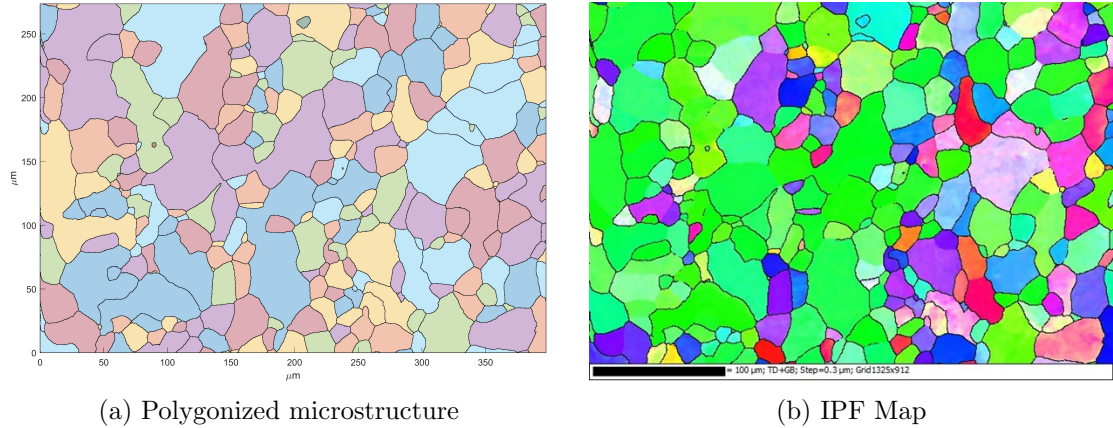

Figure 1.1: Typical example of converted microstructure (a) compared to the corresponding IPF map (b).
**EBSDPolygonizer** is a MATLAB-based app designed to transform EBSD grain data into polygonal representations. In this conversion, each grain is represented by a distinct polygon. This transformation allows for the direct utilization of real microstructures as geometries in finite element (FE) models and automated assignment of material parameters and boundary conditions to individual grains. Figure 1.1 illustrates a representative example, contrasting the converted microstructure with its corresponding inverse pole figure (IPF) map.